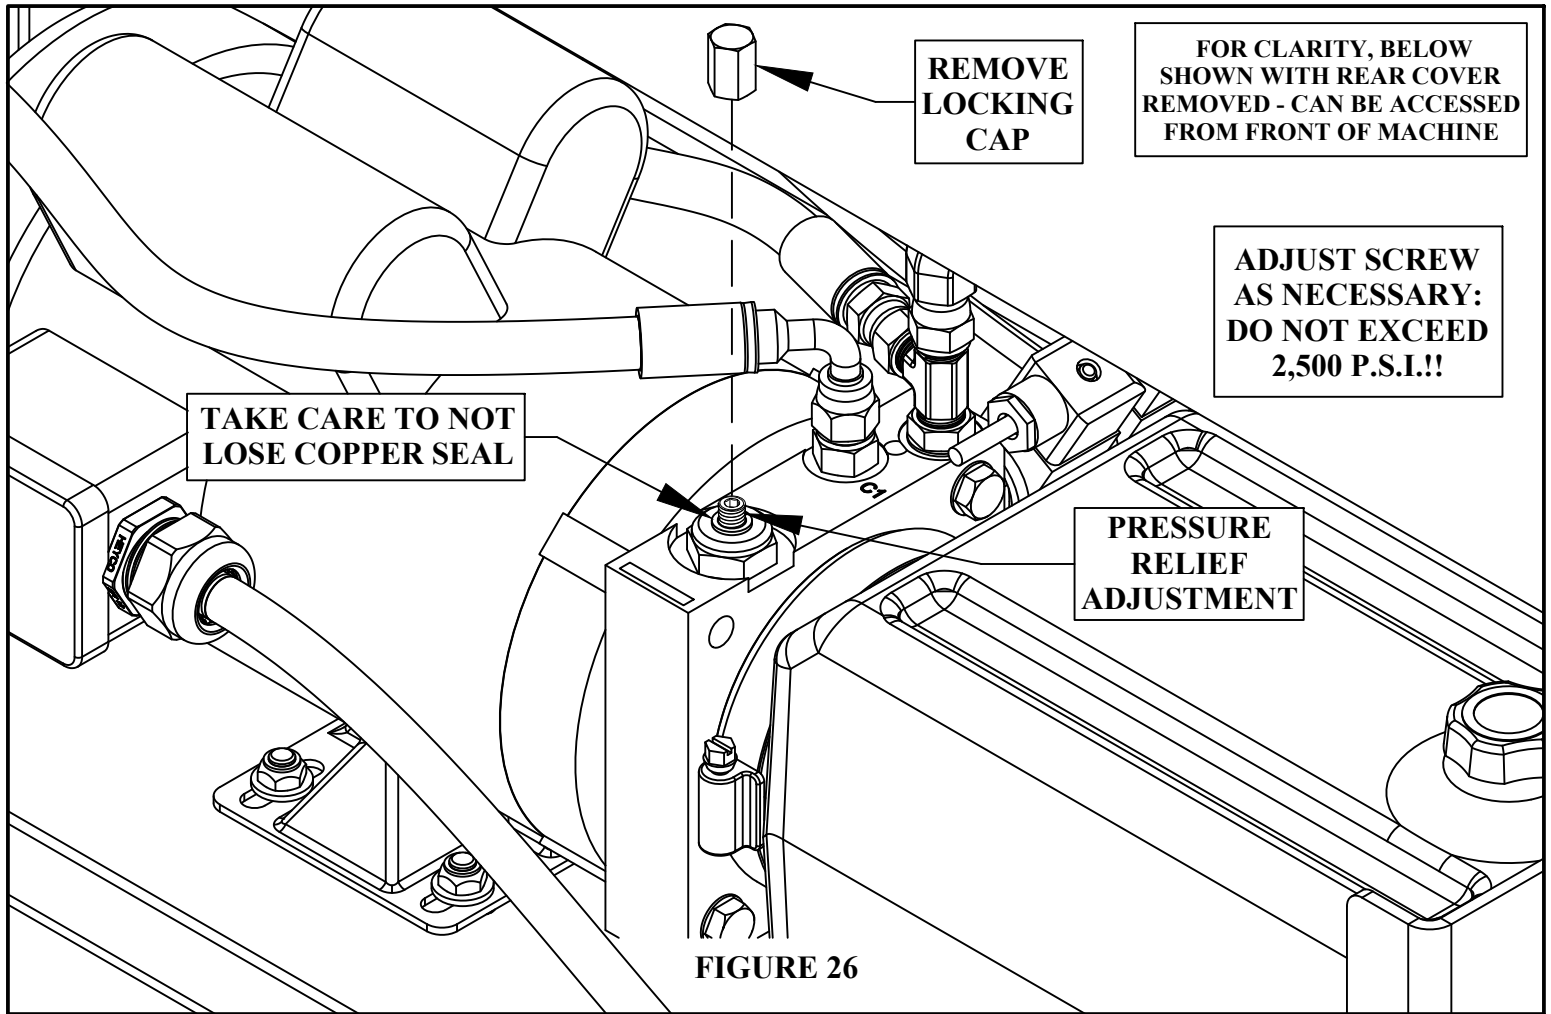

FIGURE 26
5. The relief pressure adjustment is on the top of the manifold between the motor and the pump. SEE FIGURE 26 (page 61). Shown with rear cover removed - But can be accessed from the front.